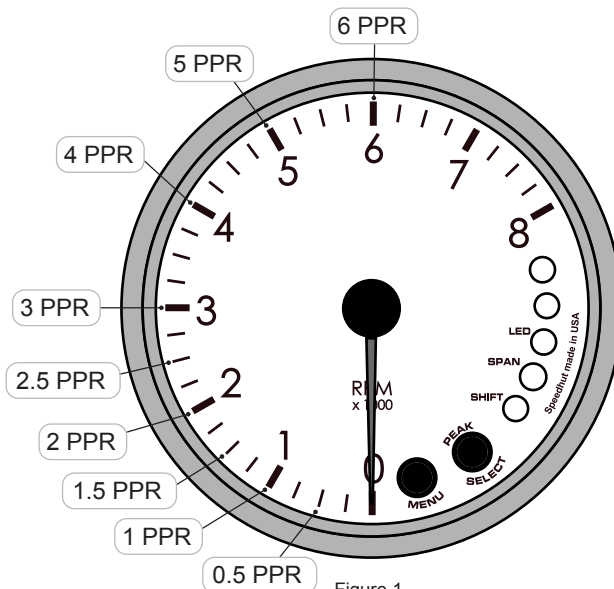

Figure 1.
- 3 PRESS the button to toggle between PPR settings (Figure 1) until pointer reaches desired PPR. After 5 seconds, the gauge will save the setting, the pointer will return to 0, and the tachometer will resume normal operation.